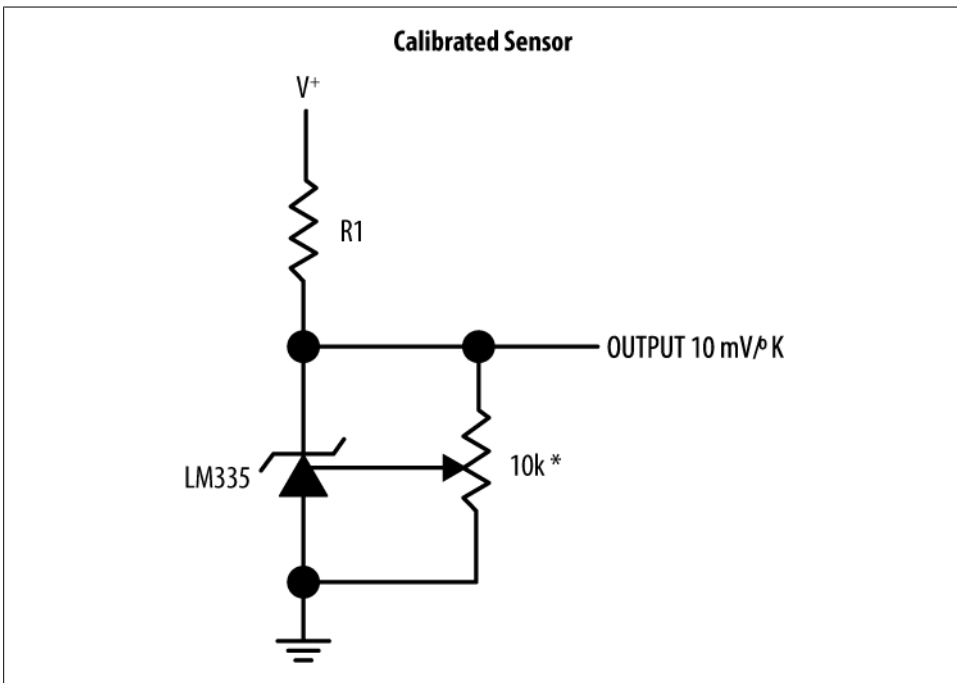

Figure 5-13. LM335 calibration schematic showing a potentiometer attached to power, ground, and the adjustment pin
- If your temperature readings are somewhat off, you can calibrate the sensor by connecting a potentiometer across the LM335 with the output connected to the adjustment pin as in Figure 5-13. Also, check to see if it is next to another component on your circuit board that's generating a bit of heat, like the voltage regulator.